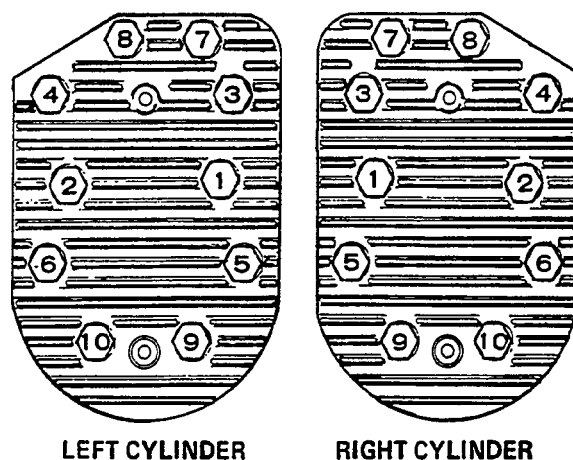

FIGURE 79. HEAD BOLT TIGHTENING SEQUENCE
6. Follow the head torque sequence shown in Figure 79.
After the head nuts have been tightened once, it will be necessary to tighten each head nut to the specified torque a second time. Follow the same sequence shown in Figure 79. Failure to re-torque could result in a blown head gasket.